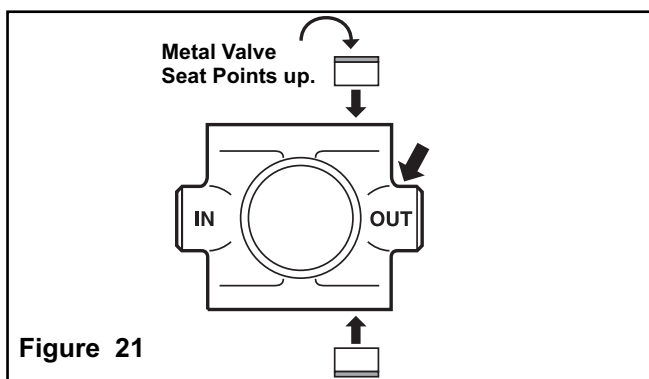

Figure 21
3. Install the Valve Assemblies into the **OUTLET** side valve bores with the metal valve seat portion facing **UP** (See Figure 21).